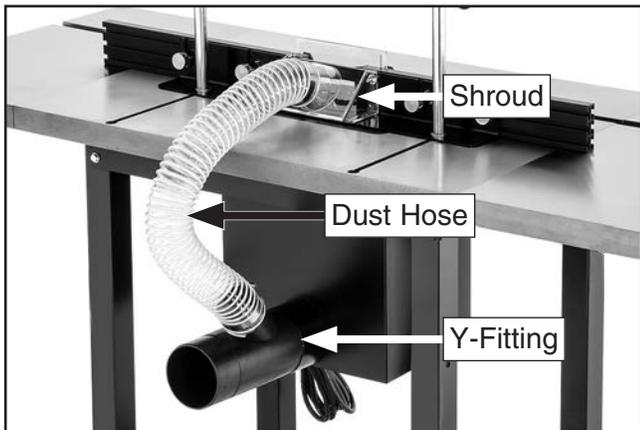

Figure 8. Example of dust hose connecting Y-fitting and fence dust shroud.
4. Attach 2 1/2" dust hose (see **Figure 8**) on Y-fitting and the dust shroud on your router table fence. Secure with 2 1/2" hose clamps.